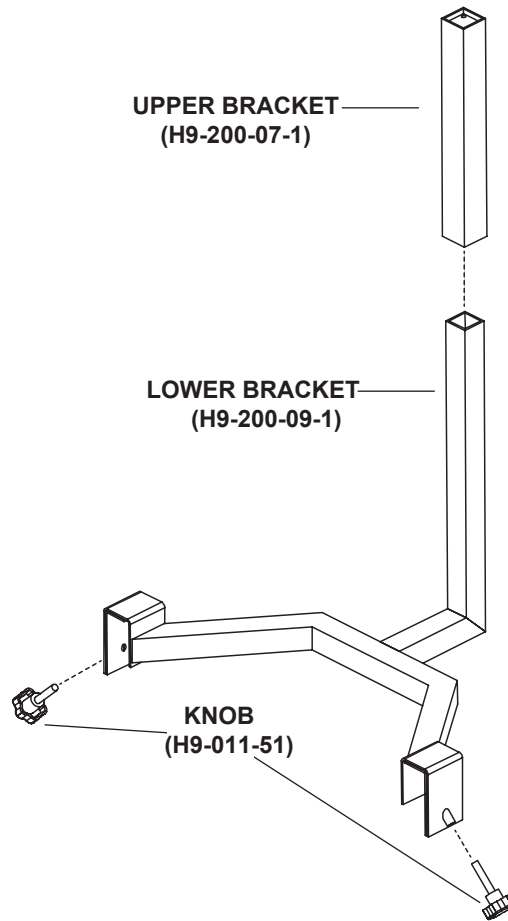

Figure 4. Tether bracket assembly
1. Slide the Lower Bracket into the Upper Bracket (Figure 4).
2. Loosely screw the knobs into the threaded tubes at the ends of the bracket bars (Figure 4). Tighten the knobs to secure the bracket to the Drager Fabius machine models.